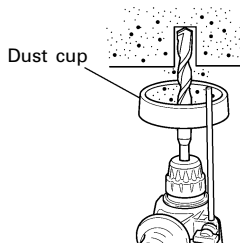
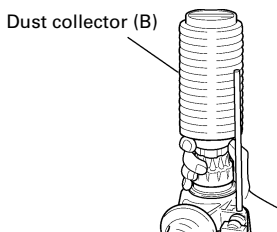

Fig. 3
Fig. 4
5. Installation of dust cup or dust collector (B) (Optional accessories) (Fig. 3, Fig. 4)
Use the dust cup by attaching to the drill bit as shown in Fig. 3.
When using dust collector (B), insert dust collector (B) from the tip of the bit by aligning it to the groove on the grip (Fig. 4).